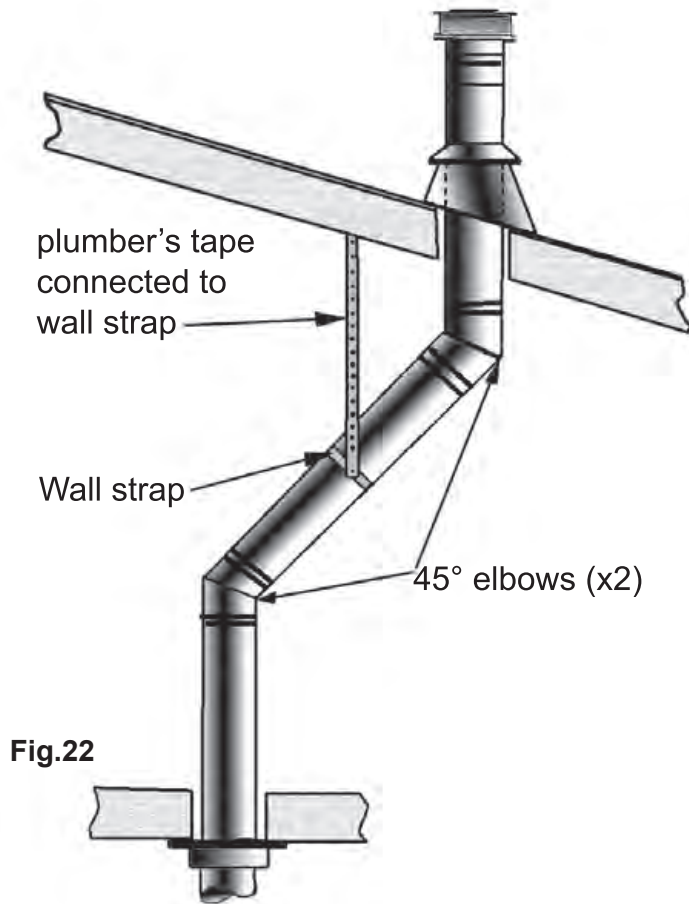

Fig.22
- If an offset is necessary in the attic to avoid obstructions, it is important to support the vent pipe every 3'0" (914 mm), to avoid excessive stress on the elbows, and possible separation. Use wall straps as needed. (Fig.22)